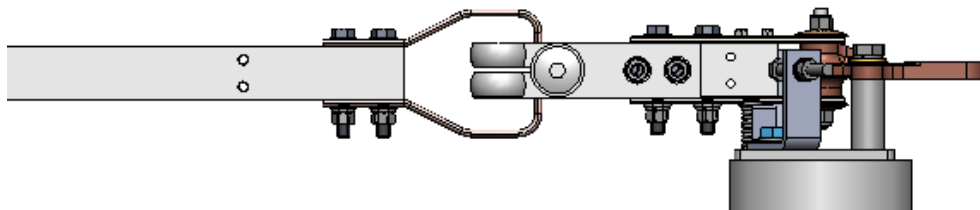

Figure 4. Blade Horizontal Alignment
- 1.6.3. Mount the jaw contact assembly to the insulator and, for the moment, leave the bolts loose. Close the switch blade into the contacts, checking for alignment as shown in **Figures 4 and 5**. Usually bolt hole tolerances will be sufficient to align the contacts properly. However, the jackscrews that support the jaw insulator stack can also be used to tilt the insulator as required
- 2.1.1. In the closed position, use a level to ensure both blades are in a horizontal plane and the centerlines are aligned. The male contact should be vertical, as seen in **Figure 4**.